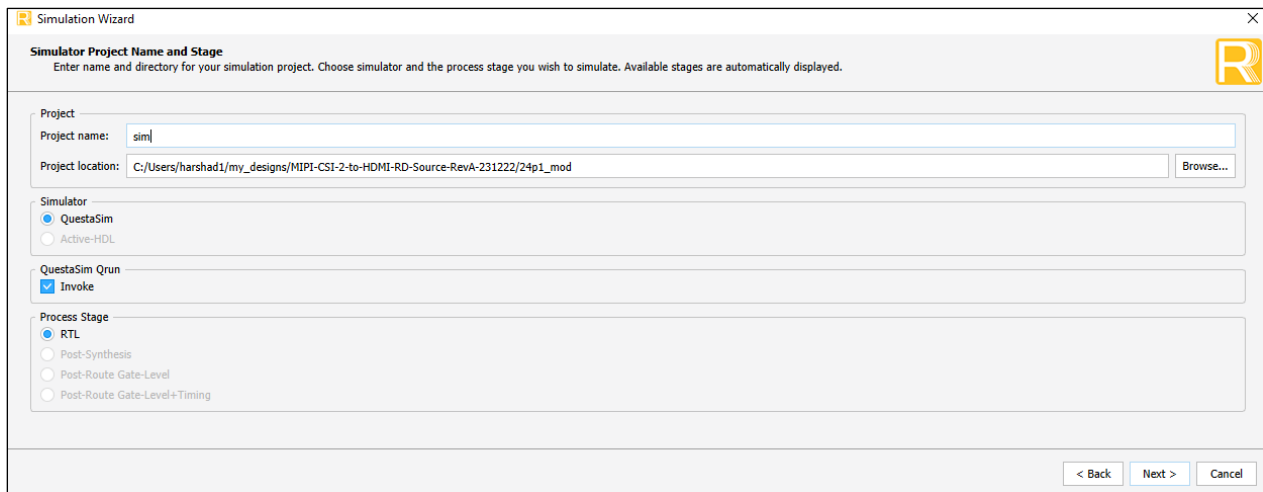

Figure 4.10. Simulation Wizard
2. Enter the project name in the simulation wizard and click on the *Next* button as shown in Figure 4.10.